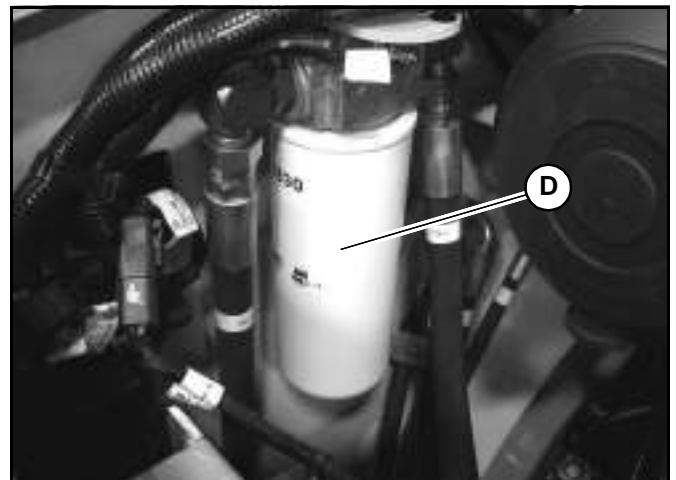

Fig. 100 – Hydraulic Oil Return Filter
- Remove the hydraulic oil return filter (D, Fig. 100), using a filter wrench if necessary. Carefully clean the filter head mounting surface with a clean cloth.